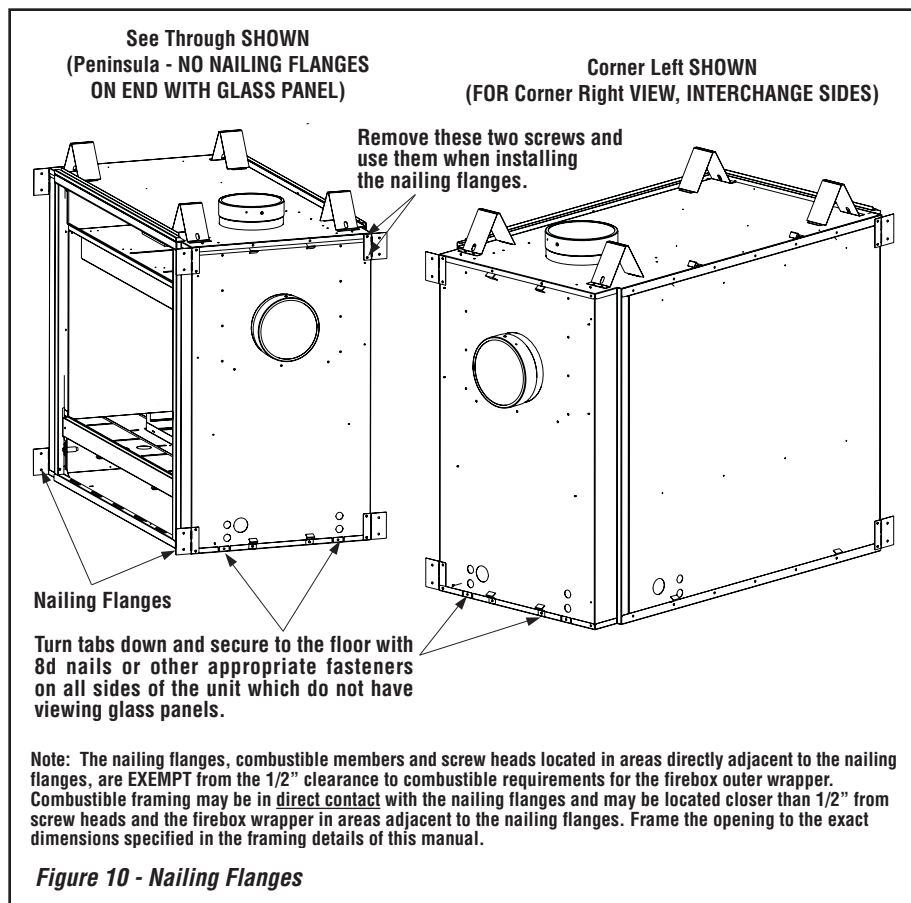

Figure 10 - Nailing Flanges
Step 1. (Page 13) Construct the appliance framing. Position the appliance within the framing and secure with nailing brackets. Bend up the appropriate header spacing guides for the drywall/finish material thickness to be used (refer to **Figure 10**).
Bend up the outer pair for 1/2" materials and the inner pair for 5/8" materials. Bend out the appropriate nailing flanges for the drywall/finish material to be used. Nailing flanges are provided for flush framing, 1/2" and 5/8" framing depths (see **Figure 10**).
The fireplace should be secured to the side framing members using the unit's nailing flanges - one top and bottom on each side of the fireplace front. See **Figures 10 & 11**. Use 8d nails or their equivalent.